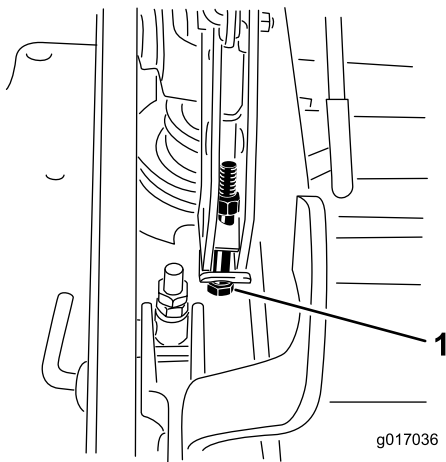

Figure 93
- If the deck is too low, tighten the single-point adjustment bolt by rotating it clockwise. If the deck is too high, loosen the single point adjustment bolt by rotating it counterclockwise (Figure 93).
- Tighten the 2 bolts at the bottom of the height-of-cut plate (Figure 93).